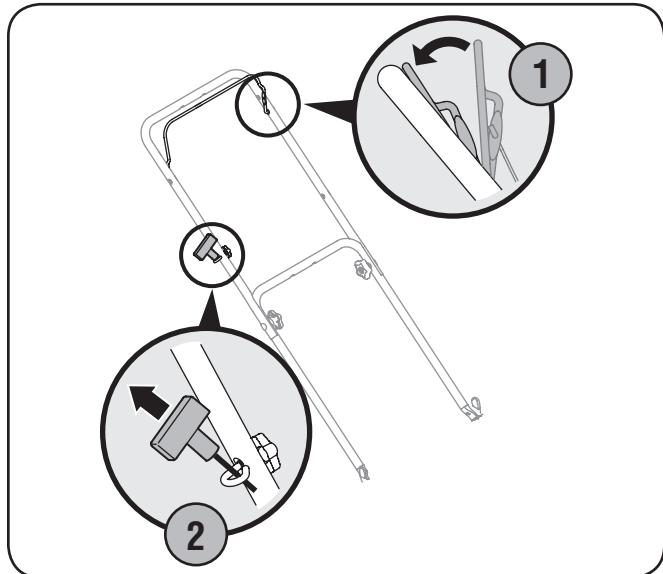

Figure 5-1
- Standing behind the mower, depress the blade control handle and hold it against the upper handle. See Figure 5-1.